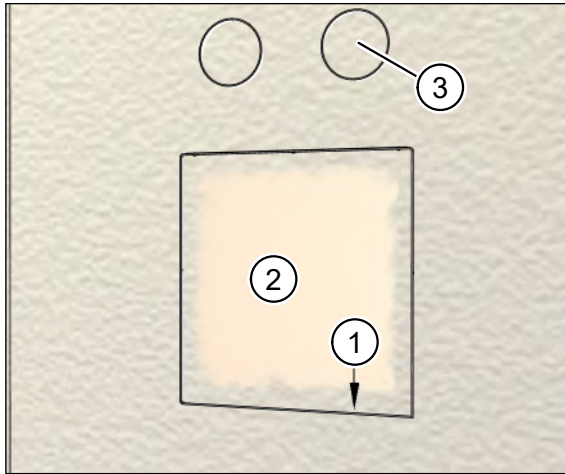

Fig. 38: Installation kit plastered on the inside
- ▶ Use a blade to score the plaster on the inside of the plastering trim (item 1 in Fig. 38).
- ▶ Carefully remove the plaster cover (item 2 Fig. 38) and the protective cover lying underneath.
- ▶ Use a blade to score the plaster on the inside of the supply air and extract air openings (item 3 in Fig. 38) and remove the adhesive tape with the plaster.